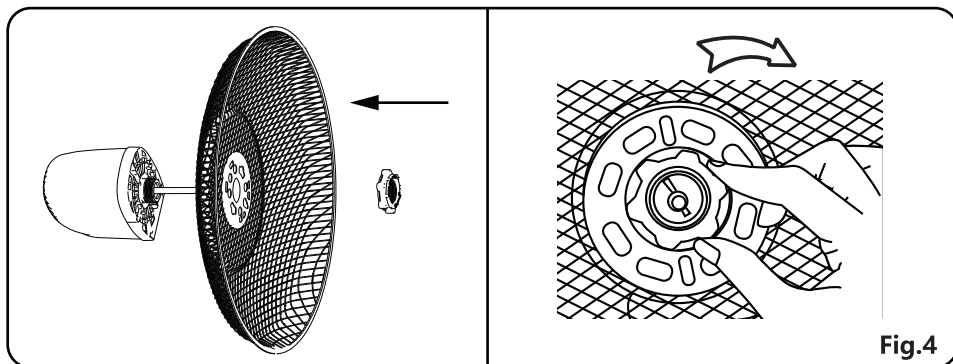

Fig.4
1. Unscrew the spinner and guard mounting nut and remove them. Attach the rear guard to the motor, make sure the handle is on the top. Then tighten the nut clockwise again. (Fig. 4)